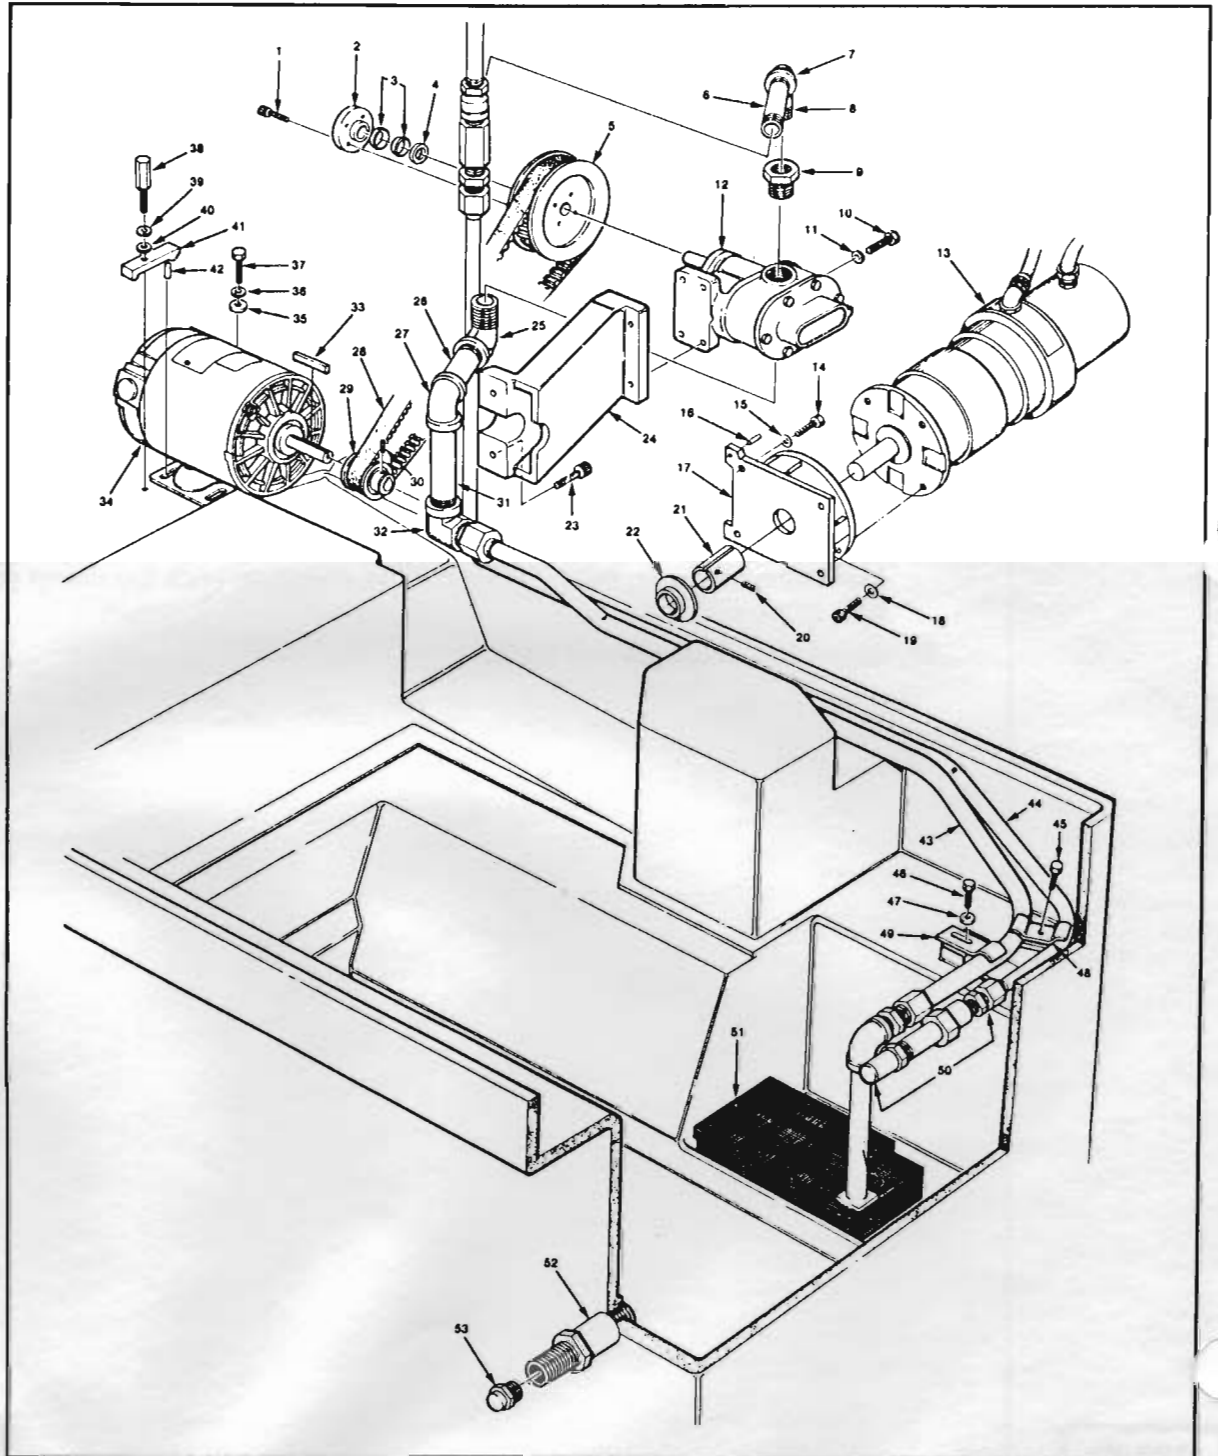

Figure 3-12
3. (Figure 3-12) Loosen the clamp screw (#20).
10. (Figure 3-12) Apply 3 or 4 drops of loctite 601 to the worm shaft at the oil shield seat and assemble the oil shield (#22) against the shoulder. The loctite requires 6 to 10 minutes for a partial set and 1 to 6 hours for a full set.